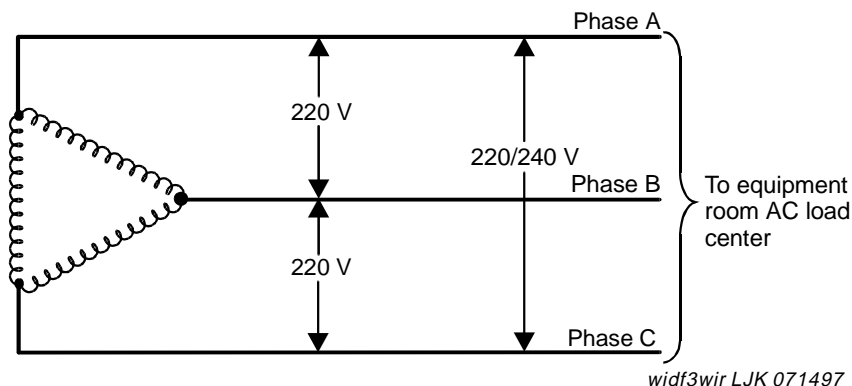

Figure 20. International Delta, 220 or 240 VAC, 50-Hz Source
- International Delta, 3-wire, 220 or 240 VAC. See Figure 20.